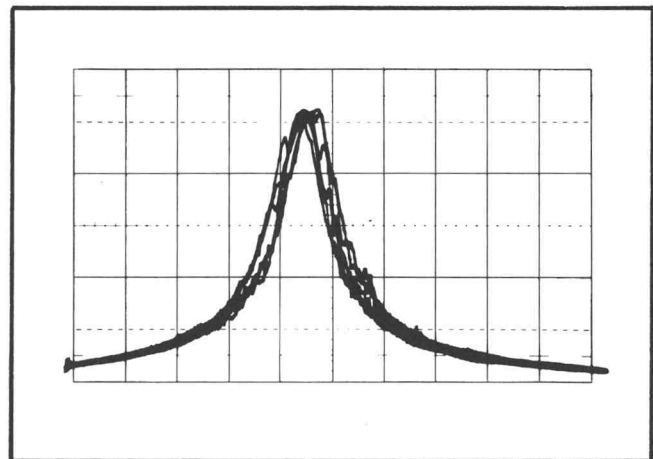

Fig. 6-25. Typical display for Incidental Frequency-Modulation Check (Step 18).
- f. Adjust the IF CENTER FREQ and POS controls for a display similar to Fig. 6-25.